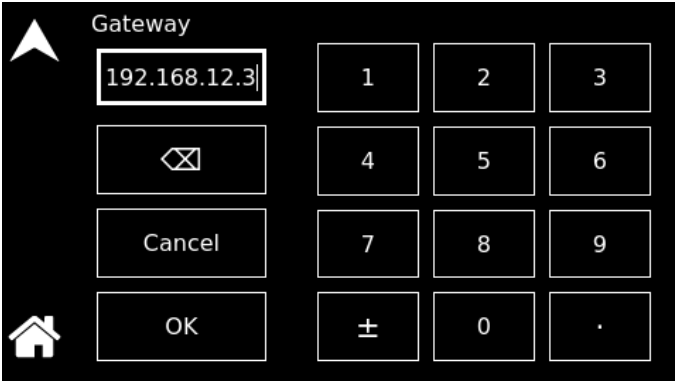

Figure 10-189. LAN Screen - Gateway Address
- **Gateway Address:** Sets the gateway address when DHCP is turned off in the LAN CONFIG sub-menu and when AUTO IP is selected, set the gateway address to all zeros so that the gateway address would be requested from the network; when DHCP is selected, the gateway address is assigned by the network DHCP server. Refer to Figure 10-189.